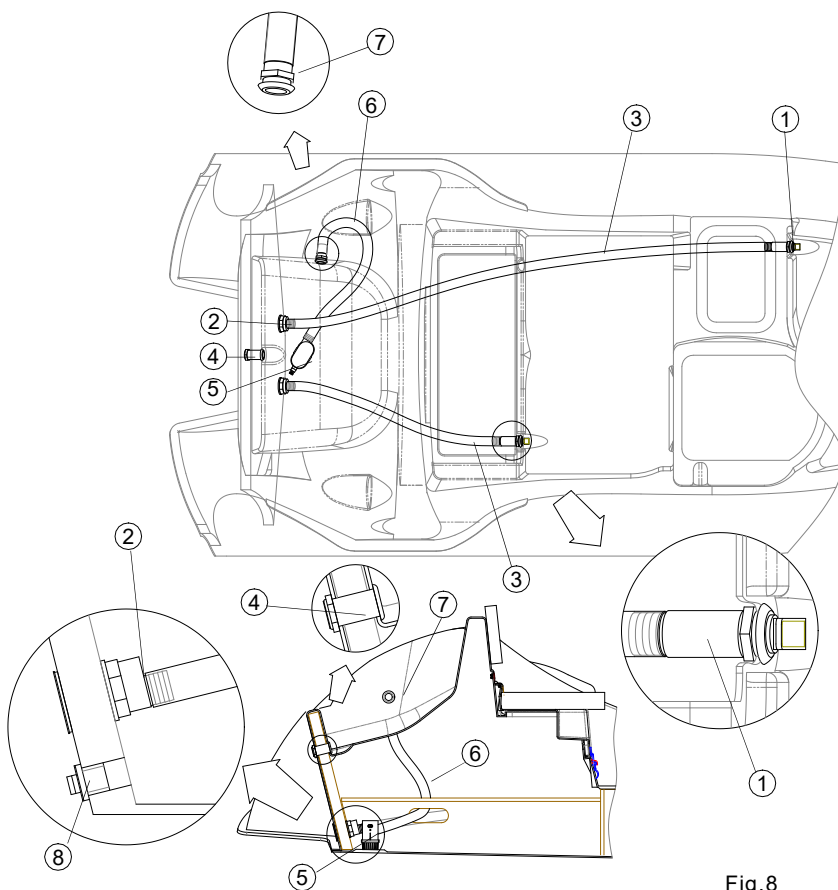

Fig.8
Drain system, (Fig. 8), consists of the three inde systems:
WARNING	<p>Bilge valve (8)(Fig.8) should be tightly CLOSED when the boat on the water</p> <p>Bilge valve (8)(Fig.8) should be open when the boat is out of the water</p>